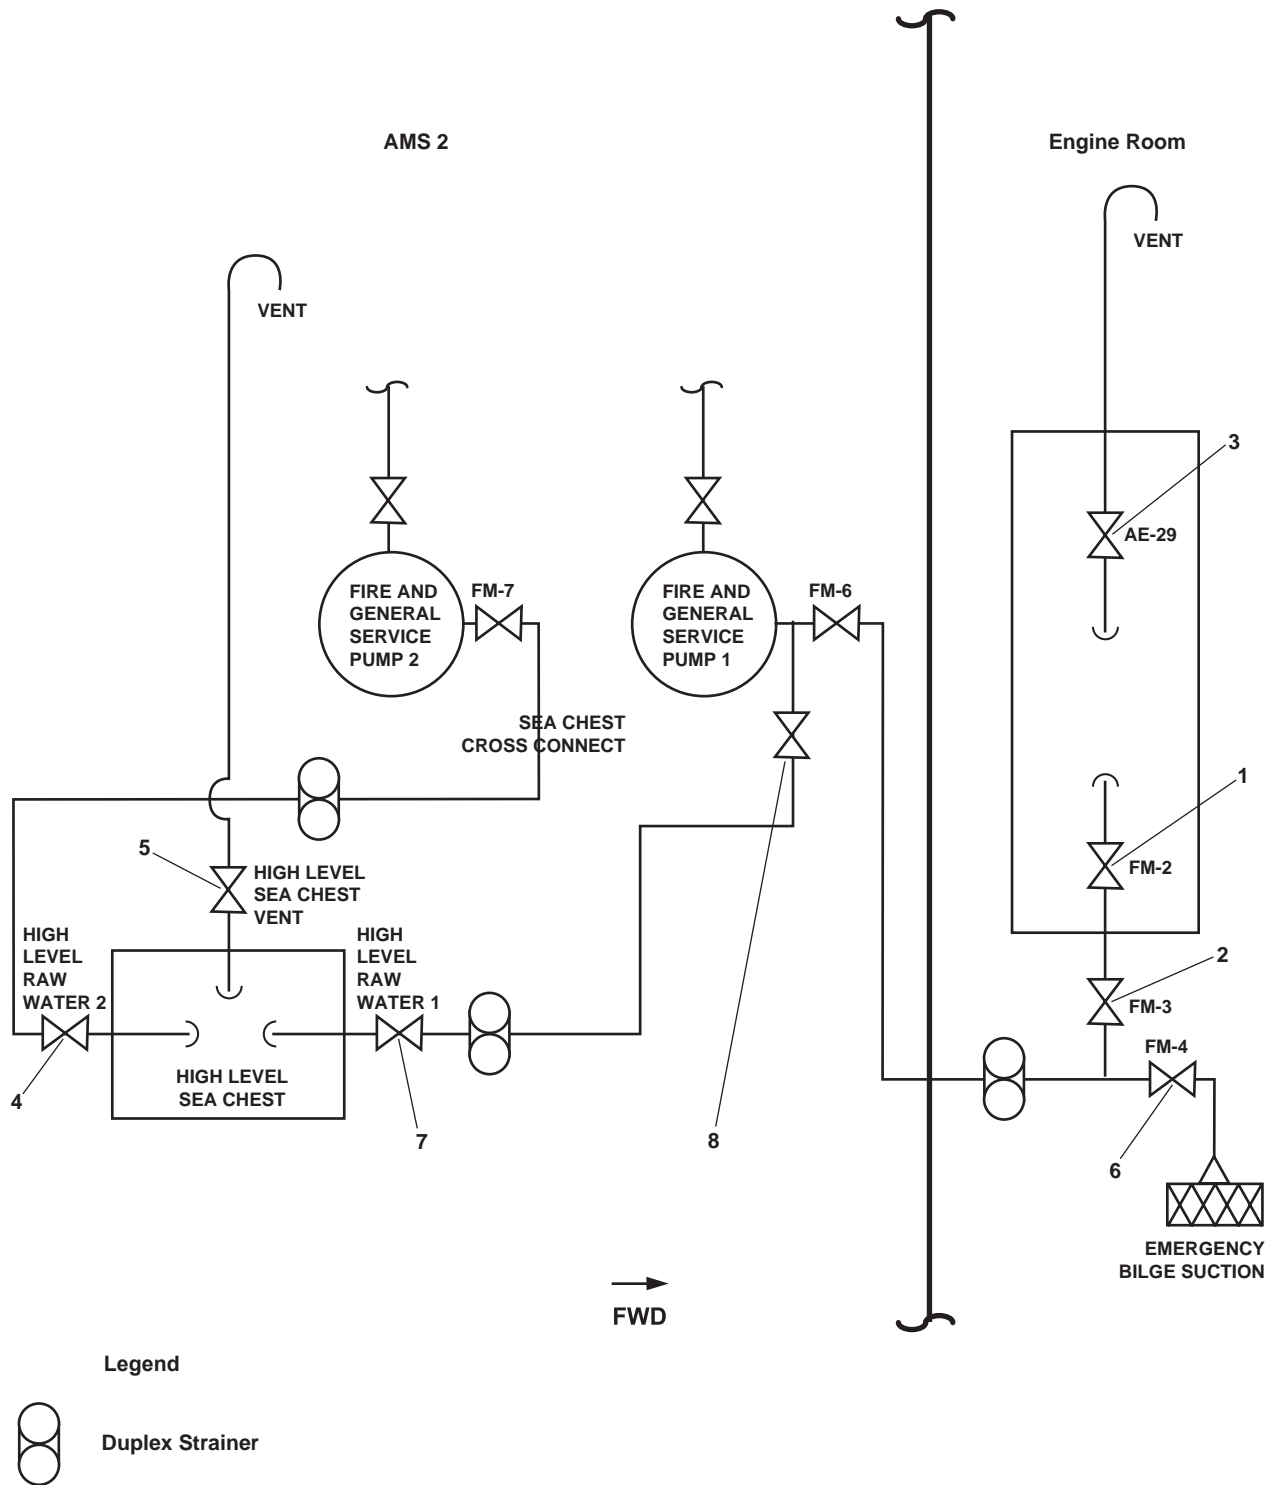

Figure 6. Sea Chest Valves
- (8) FM-2, SEA SUCT. FIRE /G.S. & BLST PMPS (figure 6, item 1), raw water suction for fire, general service and ballast pumps, located in the engine room, below the entrance to AMS 2.
- (9) FM-3, S.W. TO BILGE/BLST. PMPS. (figure 6, item 2), raw water to fire pumps, located in the engine room, below the entrance to AMS 2.
- (10) AE-29, SEACHEST VENT (figure 6, item 3), sea chest vent, located in the engine room aft, under the deck plate at the entrance to AMS 2.
- (20) HIGH LEVEL RAW WATER 2 (figure 6, item 4)
- (21) HIGH LEVEL SEACHEST VENT (figure 6, item 5)
- (5) FM-4, EMER BILGE SUCT (figure 6, item 6), emergency bilge suction valve
- (6) HIGH LEVEL RAW WATER 1 (figure 6, item 7)
- (7) SEACHEST CROSS CONNECT (figure 6, item 8)